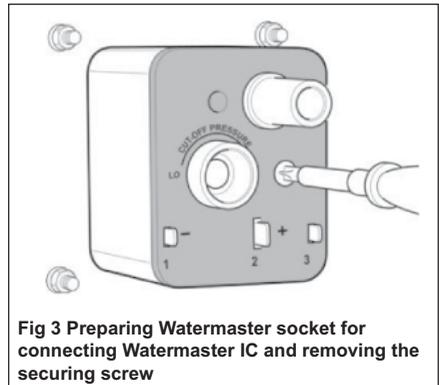

Fig 3 Preparing Watermaster socket for connecting Watermaster IC and removing the securing screw
Replacing the empty cylinder, Figure 3.
Step 4 - Remove securing screw (see Fig 3)